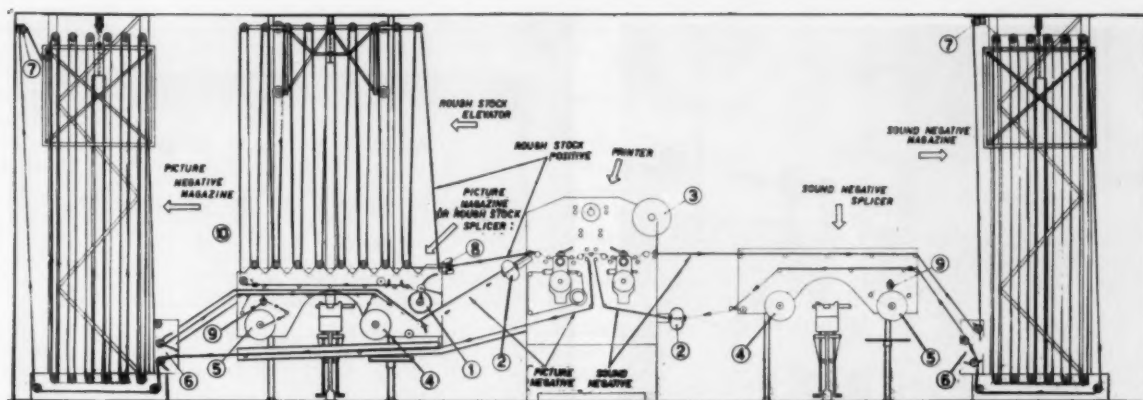
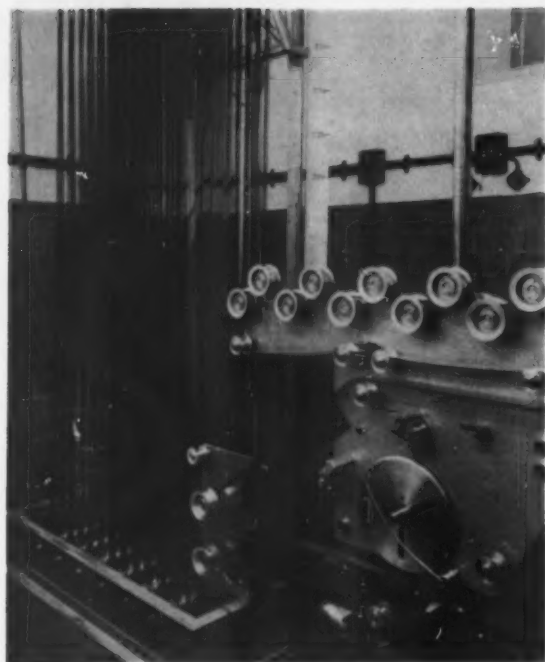
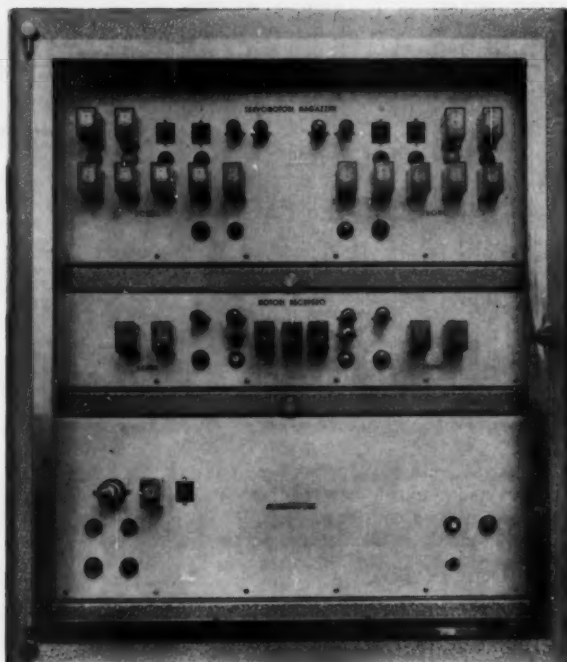

Fig. 3. General schematic of the printing system.
Fig. 5. Rollers and tension control system.
Fig. 6. Electronic controls panel.
Figure 3 is a general scheme of the machine.
Figure 3 shows the path of film during loop operation. The picture negative, as soon as it is out of the printer, is led below the left splicer and into the picture negative magazine. From this magazine it is led above the splicer, enters the dust-removing device (2) and is again ready to print. Sound film has a similar path. As soon as it leaves the printer it is passed above the sound splicer and enters its magazine. Out of this, it is passed above the splicer, through the dust-removing device (2) and again enters the printer. In this circuit only the printer has sprockets.
Particular attention has been given to prevent both sound and picture negatives from break danger on starting. This arrangement also provides a soft running. Close in and out of magazines some rollers (at (6) in Fig. 3 and shown in Fig. 5) damp and adjust the film strain. They connect with electronic devices which ensure a uniform tension which is lower than a predetermined limit figure. Also, before entering magazines, film is threaded on a roller (at (7) in Fig. 3), in connection with a motor that increases the tension upon starting, namely just at the moment in which the system has to overcome the inertia of the starting of rollers and the mass of the film. The motor operates when the tension in the path from printer to magazine decreases. Electronic controls are in the container shown in Fig. 6.
Raw positive is placed on the spool at (1) in Fig. 3. It is passed from right to left over the picture negative splicer and through the stop clips (10) which normally are open. Then it is passed back among the positive elevator rollers and, after passing through the alpha ray static brushes (8), enters the printer, traversing the picture printing gate and then the sound printing gate where it becomes exposed. It is then wound up on the spool (3). The positive elevator is normally